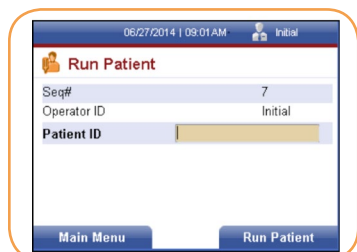

FIGURE 37
1. Press the right soft key to select the Run Patient icon. The Run Patient screen will be displayed (Figure 37).